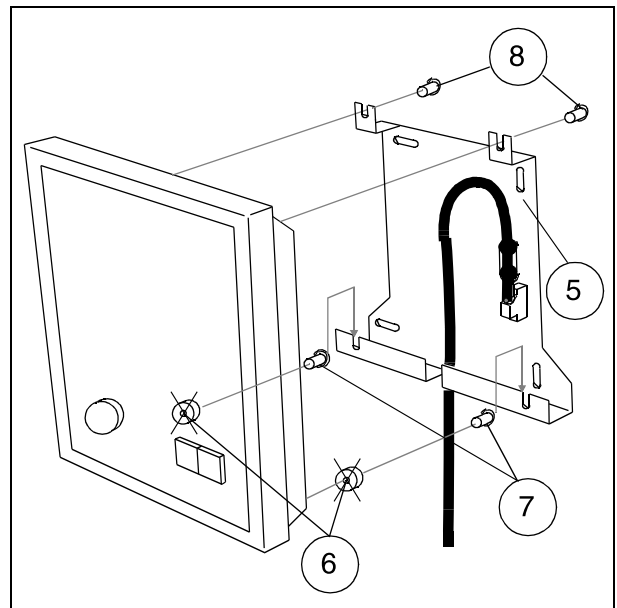

Fig. 4:
- Use the wall plate (5/Fig. 4 / p. 9) as a template, drill the mounting holes and fit the wall plate.
- Remove the 2 rubber feet (6/Fig. 4 / p. 9) on the bottom of the control console. Screw the 2 retaining screws (7/Fig. 4 / p. 9) into the threads which have been opened up.
- Hook the control console with the retaining screws (7/Fig. 4 / p. 9) **below** in the retaining slots and tighten above with the 2 hexagonal head screws (8/Fig. 4 / p. 9).